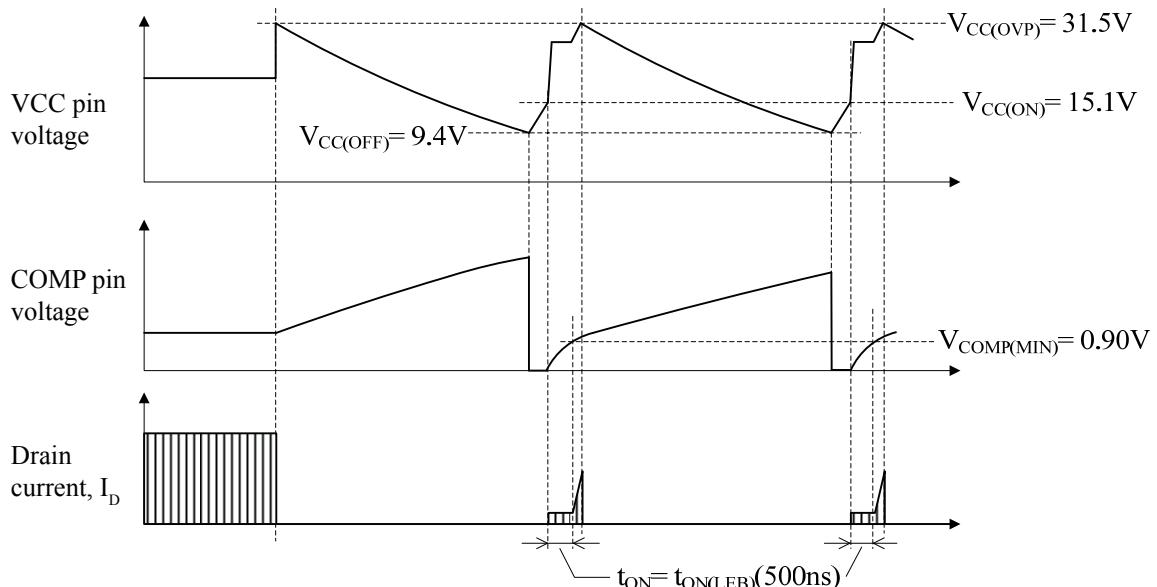

Figure 34. Waveforms when VCC pin OVP is being activated (LC551xD)
- VCC Pin Overvoltage Protection. figure 34 shows the waveforms of the OVP function on the VCC pin. When the VCC pin voltage with reference to the S/GND pin reaches and exceeds $V_{CC(OVP)} = 31.5$ V, OVP is activated and the IC stops switching